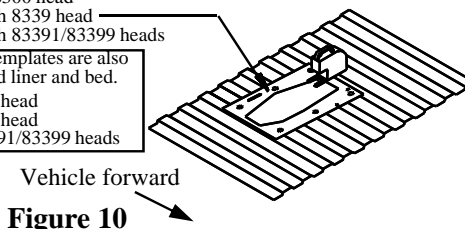

Figure 10
12. Align the holes on the template (provided with the gooseneck hitch) with the holes for the rear cross member previously drilled through the bed. Be sure that the template is properly oriented toward the front of the vehicle. See Figure 10. Center punch the holes that will be used to cut the opening in the bed. If the vehicle is equipped with a bed liner, a section of the bed liner must be cut away so that the gooseneck platform can contact the bed corrugations.